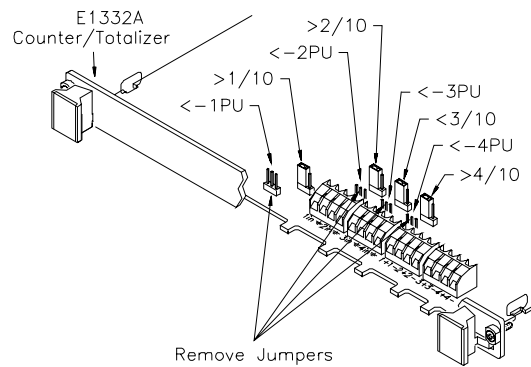

Figure 4-4. Trigger Polarity Test Setup
1. Configure the counter as shown in Figure 4-4. Remove all four pull-up jumpers.